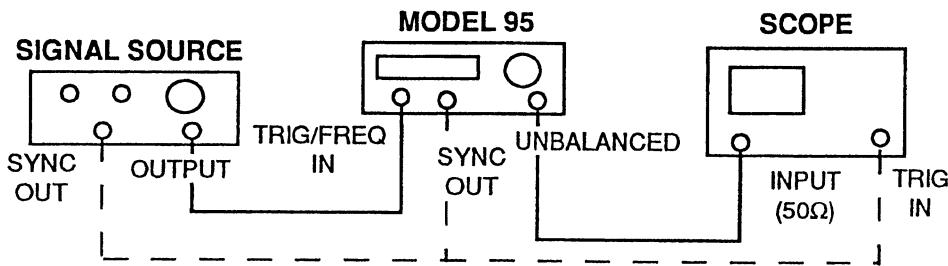

Figure 3-4. Trigger Measurement Setup
2. Connect the Model 95 and test equipment as shown in figure 3-4. Connect the Model 95's SYNC OUT to the scope's trigger input.